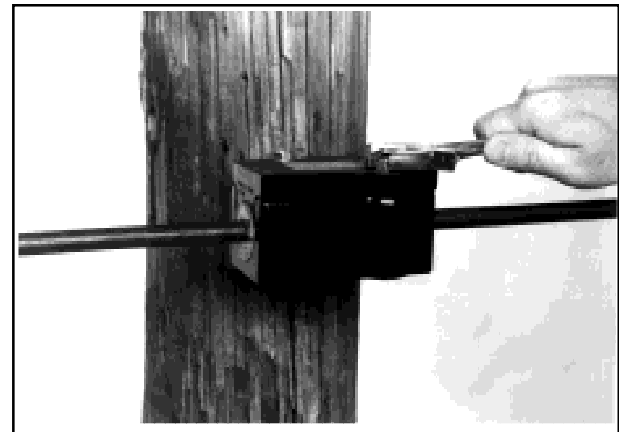

FIGURE 8
2.04 The standard cushion inserts are sized for the appropriate diameter circular ADSS cable. Custom-molded inserts are available for some Figure 8 cables. Consult PLP for specifics.
5.02 Complete the installation by alternating between each bolt and by carefully tightening the bolts with a wrench **ONLY UNTIL BELLEVILLE WASHERS ARE FLAT**. (Figure 8) This will require only about 10 foot-pounds (120 inch-pounds or 13.5 Newton-meters) of torque.